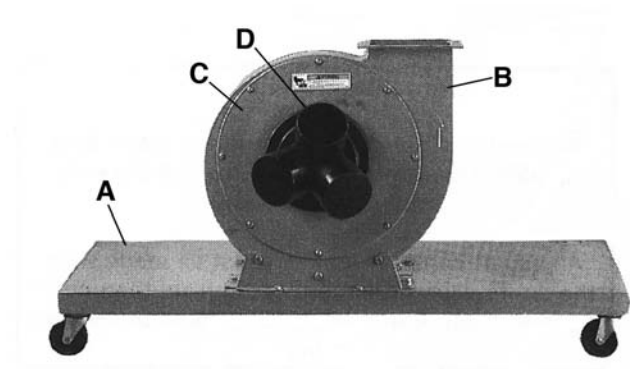

FIGURE 6
2. Place base with casters (A) Fig.6 on the ground and attach the motor and fan housing assembly (B) to the base using 6 hex. bolts and 6 flat washers.
3. Attach inlet cover (C) Fig.6 to fan housing (B) using 8 pan hd screws.
4. Attach hose adapter (D) Fig.6 to inlet cover (C) by pressing it into the inlet cover opening.